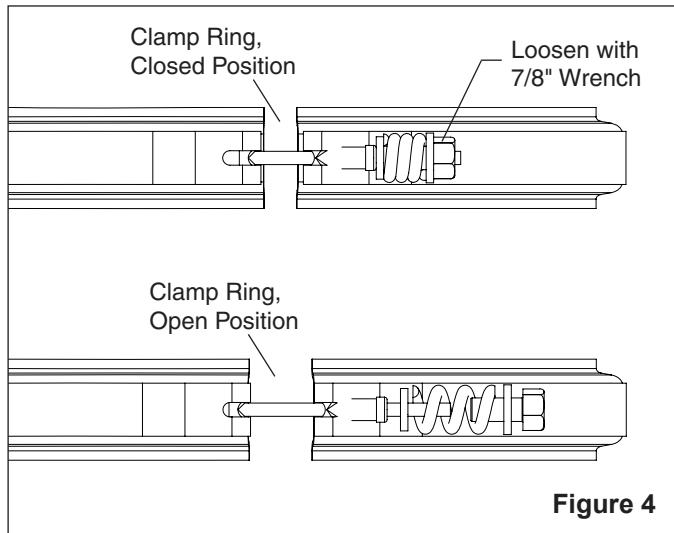

Figure 4
3. Loosen the clamp's barrel nut with a 7/8" wrench, allowing the spring coils to decompress. See **Figure 4**. Remove the barrel nut, spring and two washers from the T-bolt and place them in a safe place where they will not be lost.